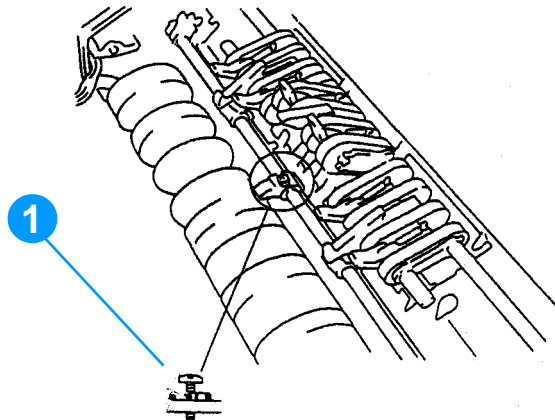

Figure 52. Lock nut glued in place
- 9 If feeding power is insufficient, turn the adjusting screw clockwise 1/8 turn (see figure 52 below).